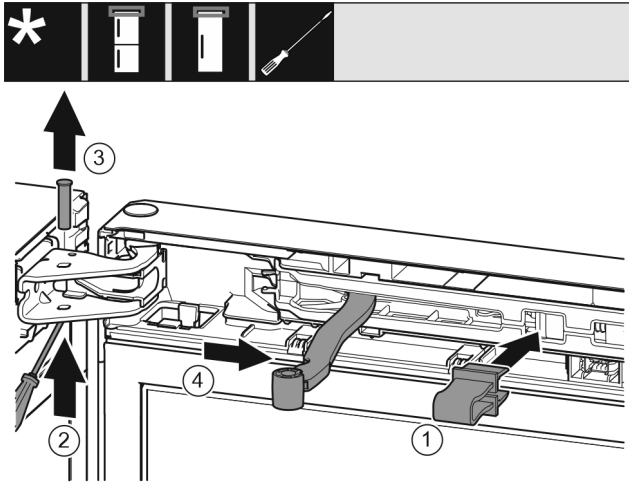

Fig. 9
- ▶ Engage the locking device in the opening. *Fig. 9 (1)*
- ▶ Unscrew the bolt with a screwdriver. *Fig. 9 (2)*
- ▶ Remove the bolt upwards. *Fig. 9 (3)*
- ▶ Turn the hinge in the direction of the door. *Fig. 9 (4)*